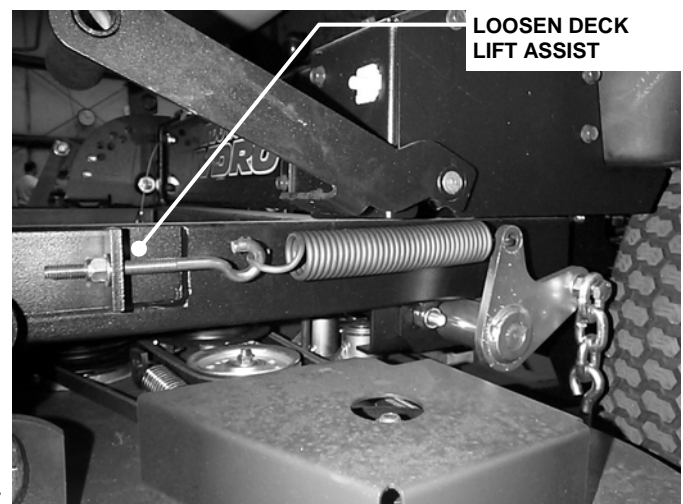

FIGURE 4.9
1. Move deck lift lever and set the mower deck to the highest cutting position. See Figure 4.9.
2. **IMPORTANT – STORED ENERGY.** Relieve tension on deck lift assist spring by backing off nut on eyebolt. Failure to relieve tension could result in personal injury. See Figure 4.9.
4. Move deck lift lever and set the mower deck to a lower cutting position until deck rests on wooden blocks. Position the deck to where there is no tension on the deck hanger chains. See Figure 4.9.
10. Reinstall deck lift assist spring. Place deck in highest cutting position. Tighten nut on eyebolt until 1 1/4" of threads (2 1/4" for 61" decks) protrude past end of nut. See Figure 4.9.